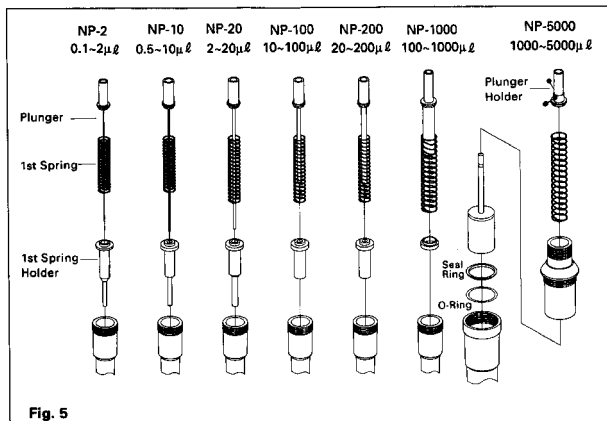

Fig. 5
4. Remove the plunger holder from the plunger by loosening the two screws on the plunger holder. At first, the spring and the plunger assembly will come out from the plunger and barrel assembly. (Fig. 5)
2. Unscrew the barrel and remove from the handle by turning counter-clockwise carefully. The plunger assembly and spring can also be removed from the pipette at this point. Refer to Fig. 5 for the internal configurations of each pipettes. Take special care not to bend the piston plunger, especially in the smaller volume pipette.
4. Reassemble the unit by reversing the above procedures. Refer to Fig. 5 when reassembling to ensure that all parts are placed in the correct position.